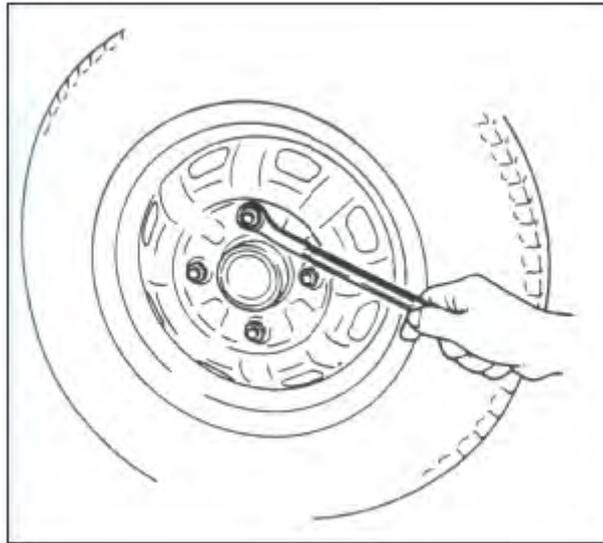

FIG14-35
- (1) Unscrew wheel nut about 180° (a half turn).
- (2) Jack up the vehicle.
- (3) Remove the wheel (FIG.14-35).